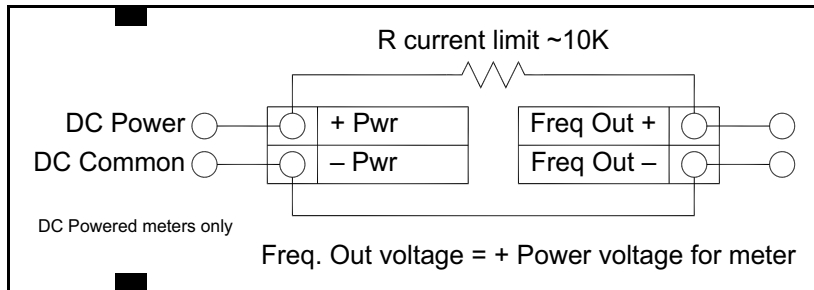

Figure 40: Non-Isolated Frequency Output Using Input Power Supply
- For DC powered meters only, use the flow meter power supply (see *Figure 40 on page 43*). Use this option if the voltage at the flow meter power supply is an acceptable driver voltage for the connected load, taking into account that the current used by the connected frequency counter comes from the meter's power supply.